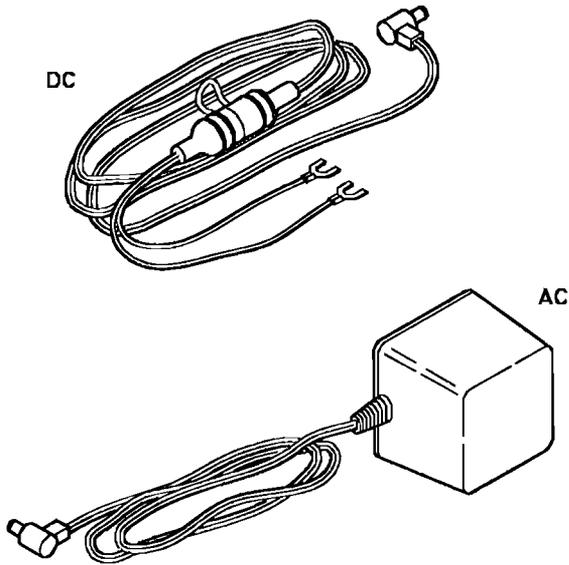
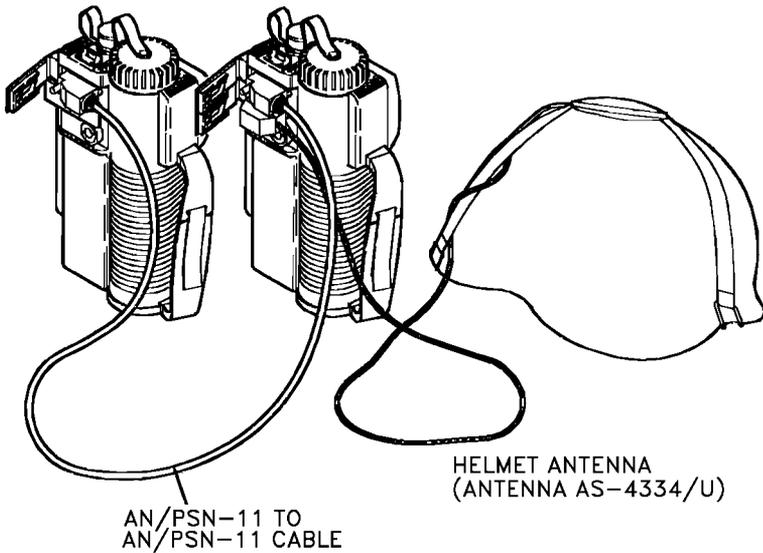
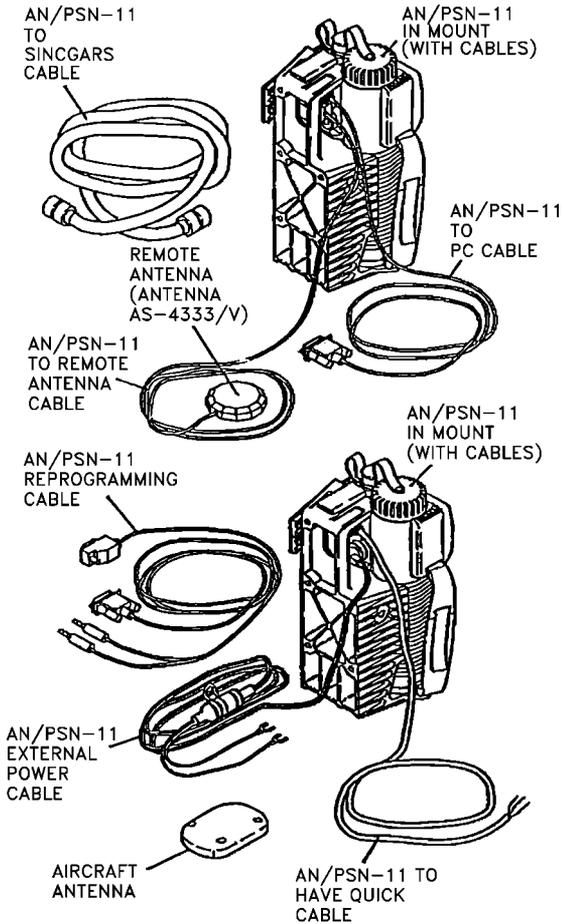

Figure 1-7 External Power Adapter and Cable.
Figure 1-9 Helmet Antenna and PLGR to PLGR Cable.
Figure 1-10 PLGR, Mount, Remote Antenna, Aircraft Antenna, and Cables.
1.5.1 External Power Adapter and External Power Cable. The external power adapter connects the PLGR to a 110/220 volt ac power source via an ac to dc power converter. The external power cable connects the PLGR to an external dc power source. The source end of the cable has lugs installed. An in-line fuse holder (2A fuse) is installed in the positive lead. The internal power adapter conditions the external power to supply charging power for NiCad battery (if installed). The external power adapter and external power cable are shown in Figure 1-7. The external power cable is also shown connected to a PLGR in Figure 1-10.
1.5.2 PLGR To PLGR Cable. The 1-meter PLGR to PLGR cable provides the data transfer path between two units. Transfer data includes setups, waypoints, routes, time and satellite data. The cable is shown connecting two PLGR's in Figure 1-9.
1.5.3 External Antennas. Three external antennas are available for the PLGR: Remote Antenna (RA), Helmet Antenna (HA), and Aircraft Antenna (A/C). The RA is for vehicular use. It has a 5 meter cable, and is mounted by the built-in magnet. It can be secured with one bolt to its center. The HA is for helmet mounting. It has a 1.5 meter cable. The A/C antenna is for aircraft use. It can be mounted to an aircraft surface with four bolts. All three antennas mate with PLGR rear panel connector J3. The HA is shown connected to a PLGR in Figure 1-9 (remote antenna is the same, except cable length and cable to antenna connection). The RA and A/C antenna are shown in Figure 1-10.
1.5.4 PLGR To Personal Computer (PC) Cable. The PLGR to Personal Computer (PC) cable provides the data transfer path between a PLGR and PC. It is a 1.5 meter cable. Transfer data includes remote control, setups, waypoints, routes, initialization data, and satellite data. The cable is shown connected to a PLGR in Figure 1-10.
1.5.5 PLGR To HAVE QUICK Cable. The PLGR to HAVE QUICK cable provides for data output to HAVE QUICK compatible device. It is a 3 meter cable. The cable is shown connected to a PLGR in Figure 1-10. The HAVE QUICK end of the cable has stripped and tinned wires for these signals:
1.5.6 PLGR To SINCGARS Cable. The PLGR to SINCGARS cable provides for SINCGARS Time Fill data input to a SINCGARS compatible device. It is a 3 meter cable. The cable is shown in Figure 1-10.
1.5.8 Mount. The mount for the PLGR is used in vehicle installations. The PLGR is installed by itself, with external power or RA, or both. The PLGR and attached accessories are secured in the mount. A PLGR is installed in a mount in Figure 1-10.